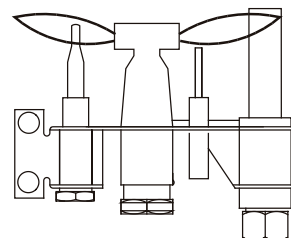

Figure 8. Pilot Burner
- Adjust pilot screw to provide properly sized flame as shown in figure 8). To increase the flame, turn the screw counterclockwise. To decrease the flame, turn it clockwise. The flame should impinge on the thermocouple and thermopile.